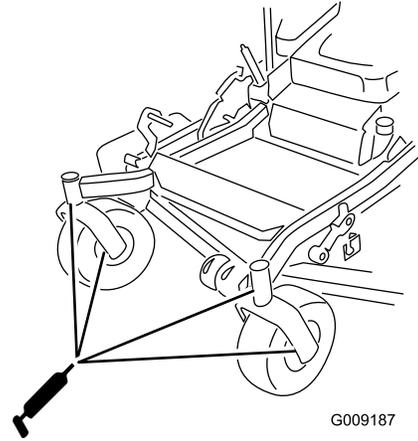

**Figure 38**
3. Grease the mower deck idler-pulley pivot until grease comes out the bottom (Figure 38).